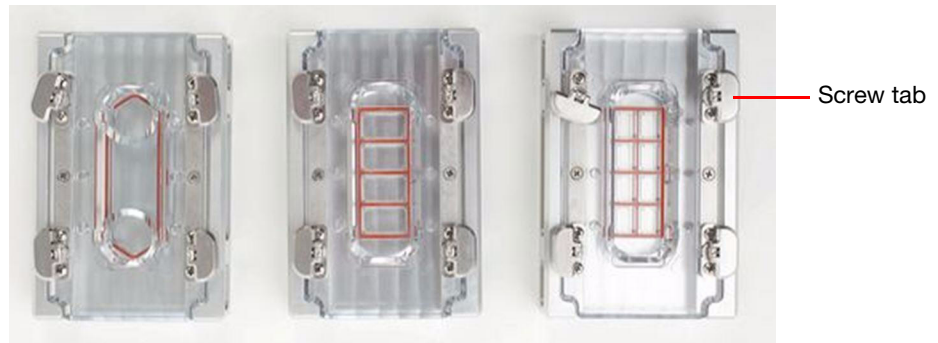

Figure 12 SOLiD™ Deposition Chambers: 1-well, 4-Well, and 8-well.
- Place the SOLiD™ Opti Slide Carrier assembly into SOLiD™ Deposition Chamber base, then place the appropriate SOLiD™ Deposition Chamber lid on top (see Figure 12).